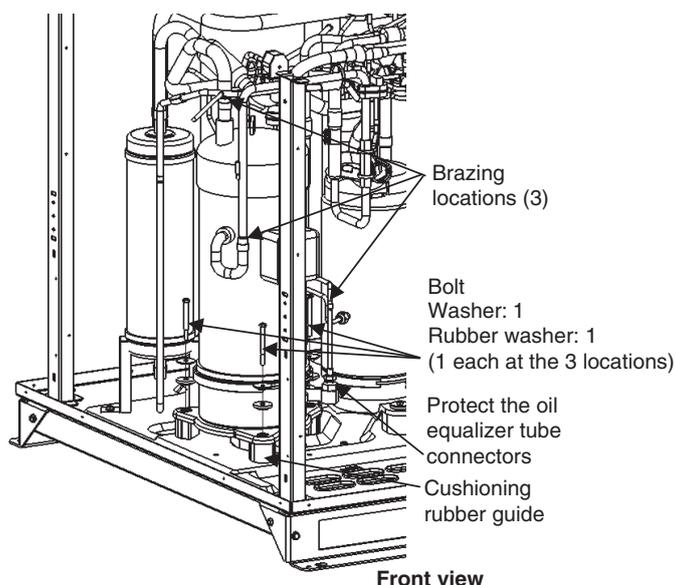

Fig. 26
- (6) Set the remaining cushioning rubber beneath the new compressor leg at the locations shown in the figure 26.
- (7) Remove the bolts which are temporarily fastening the 2 pieces of cushioning rubber, and anchor the 3 compressor legs using the bolts, washers, and rubber washers.
- (8) Insert the pre-shaped tube assembly at the 3 brazing locations indicated.
- (9) Connect the manifold gauge to the high- and low-pressure outlet ports at the outdoor unit where the compressor was replaced. Connect the manifold gauge to a nitrogen cylinder and perform nitrogen gas replacement.
- (10) Perform copper brazing at the 3 brazing locations.
In the same way as during removal, pay particular attention to protection of the oil equalizing tube connector parts shown in the figure 26. An O-ring is mounted inside the oil equalizer tube connector parts. It must be protected and do not lose it.